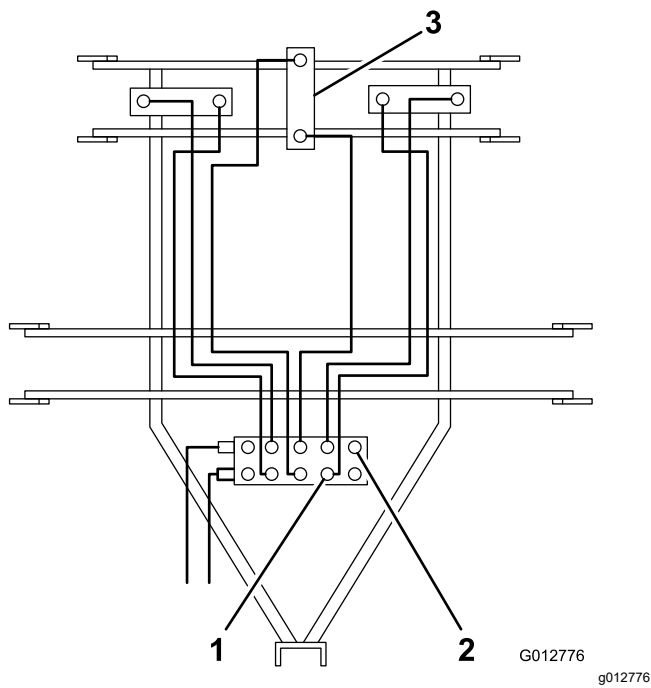

Figure 34
4. Disconnect the hydraulic hoses connected to the front row of the control valve, Row "A" (Figure 34). Drain each hose into a drain pan and reconnect them to the corresponding valves.
- Disconnect the hydraulic hoses that are connected to the back row of the control valve, Row "B" (Figure 34). Drain each line and cylinder by carefully pulling down the lift arms until all fluid is pumped out of the hoses and cylinders and into a drain pan. Reconnect the hoses to the control valve.